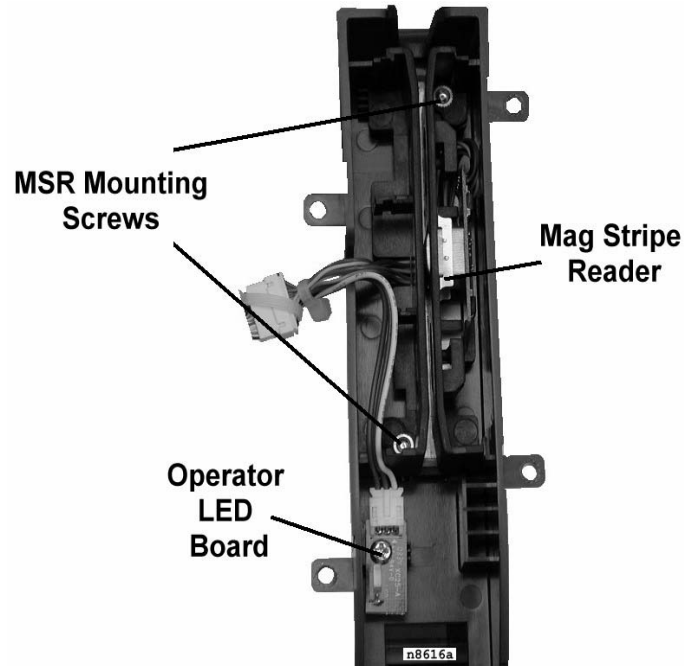

Figure 2-14: Mag Stripe Reader Housing Details
4. Remove the mag stripe reader assembly from the housing by removing two screws. See Figure 2-14 below.
5. Orient the card reader cable as shown in Figure 2-14, place it in the housing, then fasten the pair of screws as shown.